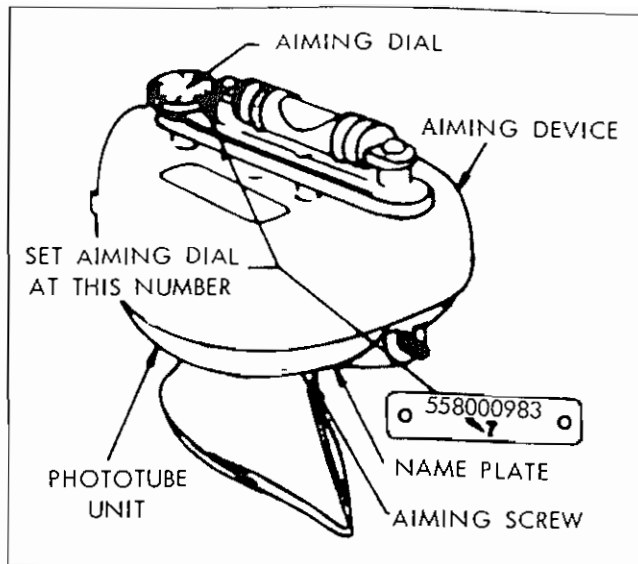

Figure 56
4. Install Aiming Device No. 4 as shown in figure 56.
5. Observe number stamped on name plate on bottom side of the Phototube Unit, see figure 56. Adjust aiming dial until corresponding number is under pointer.